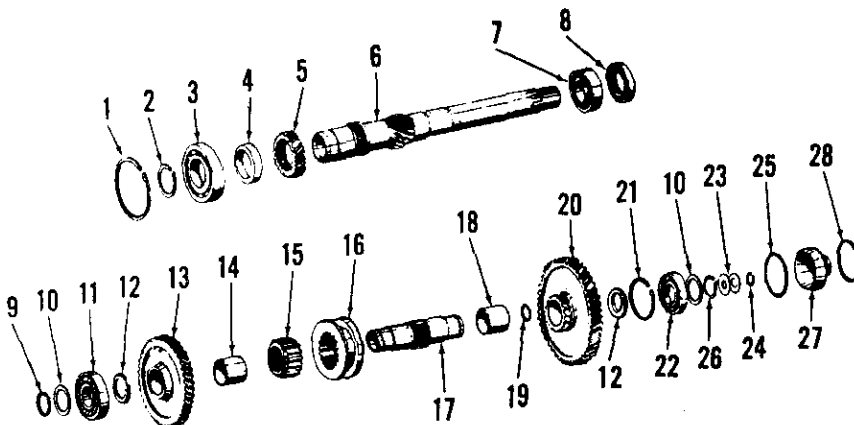

Fig. 130—Exploded view of dual speed pto driving shaft, pto countershaft and their component parts used on some Series 354, 364 and 384 tractors.
187. Some Series 354, 364 and 384 tractors are equipped with a dual speed pto, which is similar to single speed constant-running pto except that the hollow driving shaft has two gears. See Fig. 130. These gears are in constant mesh with two gears (13 and 20) that are free wheeling on the pto countershaft (17). The countershaft is splined to the pto front shaft.
188. **R&R DRIVING SHAFT AND COUNTERSHAFT.** To remove the pto countershaft first perform the clutch split as outlined in paragraph 146 or 152 and transmission split as outlined in paragraph 161. With housing removed as a unit, remove pto countershaft rear bearing snap ring (9—Fig. 130), retainer washer (10) and "O" ring (25). Drive the countershaft and front bearing forward into clutch housing compartment. Gears and coupling will be removed as the countershaft is removed. Remove snap ring (26) and press bearing (22) from countershaft. Remove bushing (18) from countershaft and snap ring (19) from inside of countershaft.
NOTE: To adjust the shifter, loosen the pinch bolt, position shifter in center location hole in clutch housing. Move the clutch (16—Fig. 130) to neutral position, tighten pinch bolt.